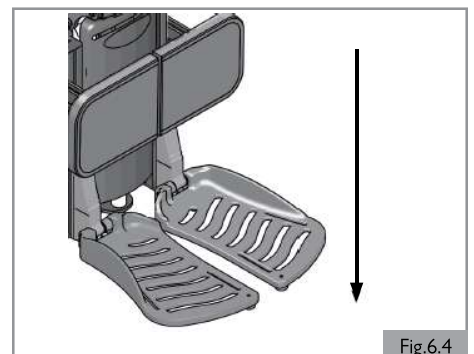

Fig.6.4
#### **Lower the centermount foot plate (Fig. 6.4)**
4. Push the joystick forward until the footplates rest fully on the ground. (Fig. 6.4)